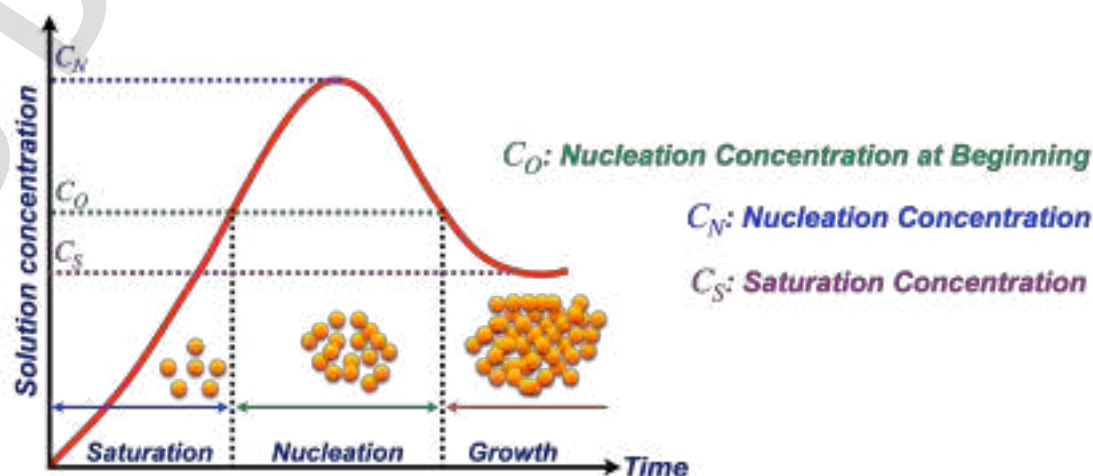

Fig. 31: Schematic of Lamer diagram
- The effect of concentration on particle size can be understood using the Lamer diagram shown in Fig. 31. At the beginning the saturation concentration is maintained C_S before the reaction starts. The formation of nuclei begins when a certain concentration C_0 is reached. The nucleation increases upto a concentration C_N above which there is super saturation. The rate of nucleation is maximum when the concentration is C_N .